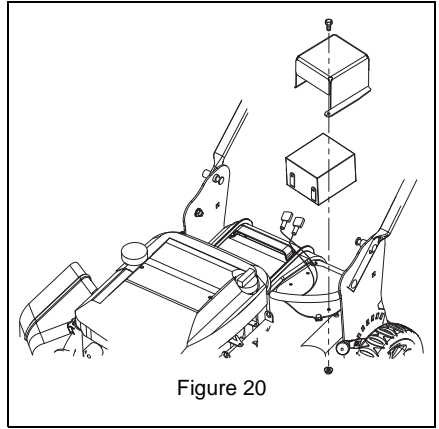

Figure 20
1. Disconnect negative (-) cable first, then positive (+) cable (Figure 20).
3. Connect negative (-) cable first, then positive (+) cable (Figure 20).